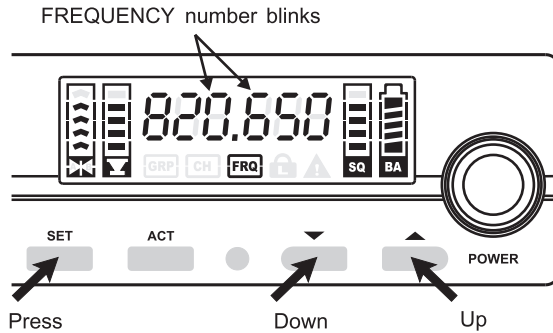

Fig. 15
(D) FREQUENCY Setting. Fig. 15